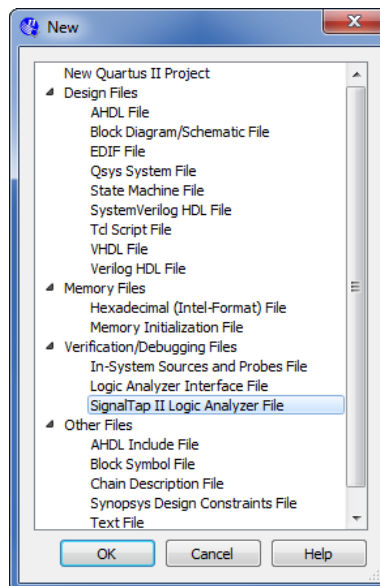

Figure 2. Need to prepare a new file.
1. Open the SignalTap II window by selecting File > New, which gives the window shown in Figure 2. Choose SignalTap II Logic Analyzer File and click OK.